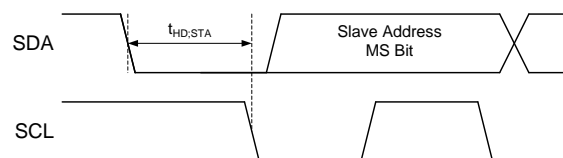

Figure 20. START Bit
Each bus transaction begins and ends with SDA and SCL HIGH. A transaction begins with a START condition, which is defined as SDA transitioning from 1 to 0 with SCL HIGH, as shown in Figure 20.
The protocols for High-Speed (HS), Low-Speed (LS), and Fast-Speed (FS) Modes are identical; except the bus speed for HS Mode is 3.4 MHz. HS Mode is entered when the bus master sends the HS master code 00001XXX after a START condition (Figure 20). The master code is sent in Fast or Fast-Plus Mode (less than 1 MHz clock); slaves do not ACK this transmission.
S	START, see Figure 20